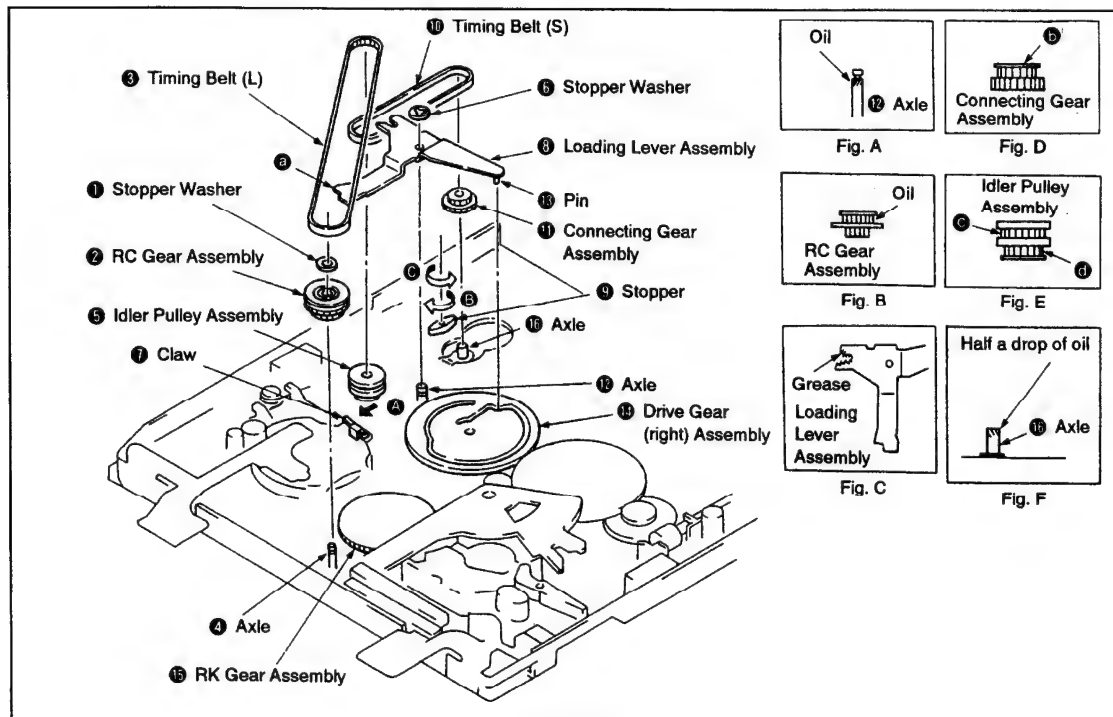

Fig. 3-16.
1. Removal (See Fig. 3-16.)
2. Installation (See Fig. 3-16.)